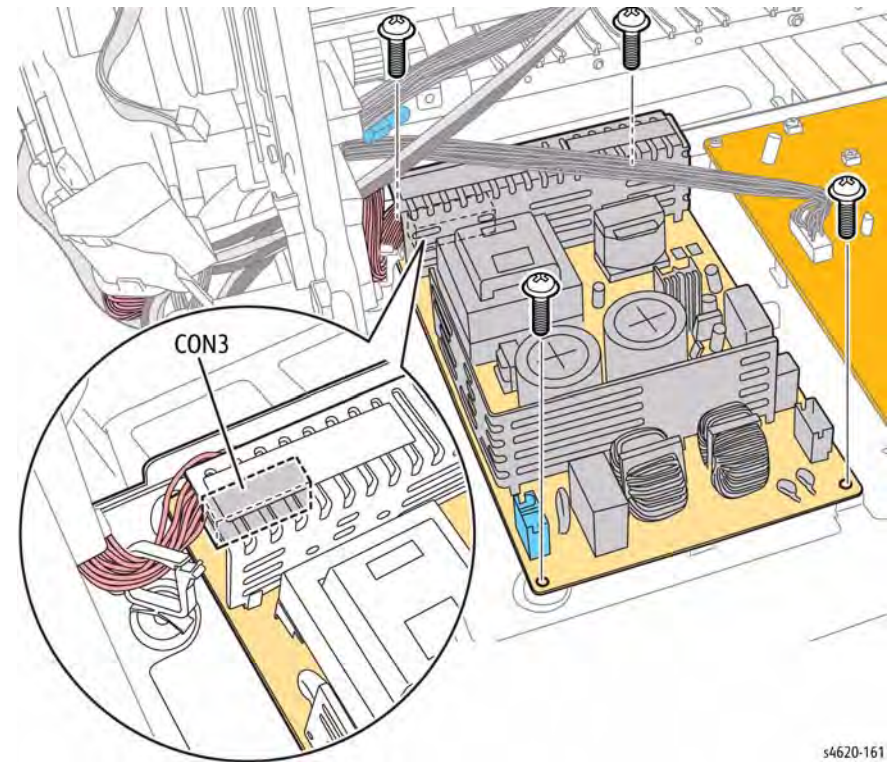

Figure 8 Remove the SMPS
19. Disconnect CON3, release the harness from the clamp, and remove 4 screws (metal) that secure the SMPS to the power supply tray, Figure 8.